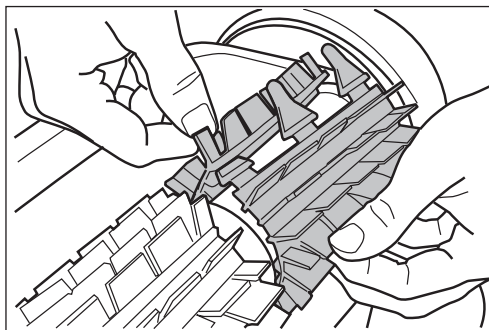

Figure 29. Pull Tabs Through Each Slot
4. Thread each tab into the slot provided and gently feed it through until the heel comes out at the other side of the slot (*Figure 29*).